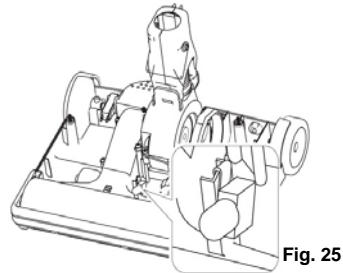

Fig. 25
6. Carefully lift off the hard plastic top of the power nozzle. (Fig. 25)